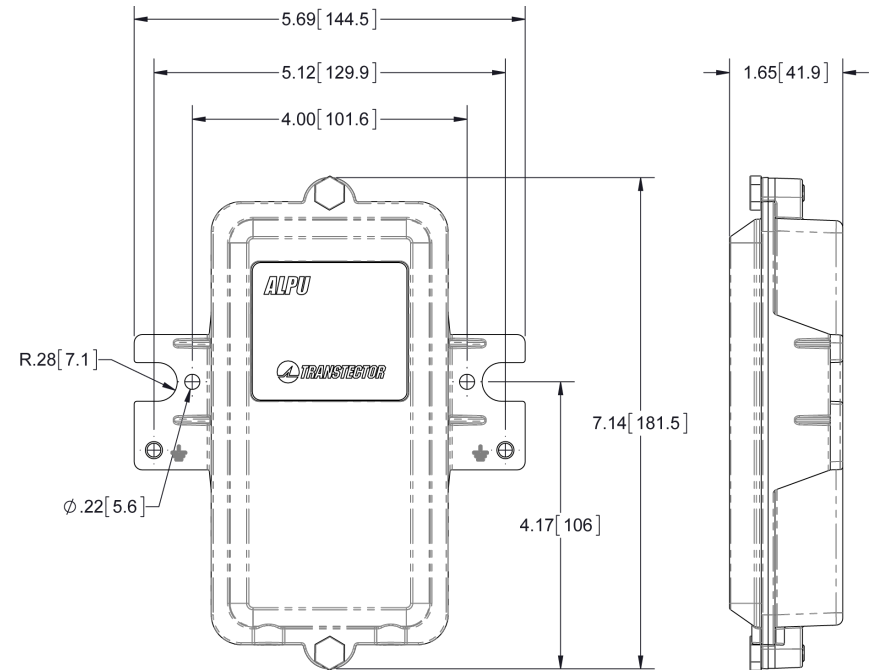
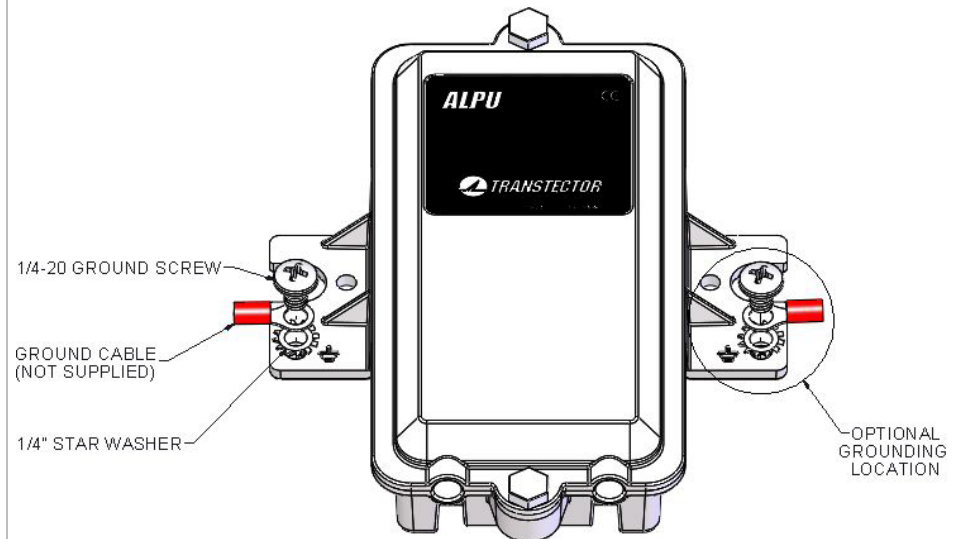

Figure 1. Mechanical outline drawing (inches)
Figure 2. Ground Cable Installation
- The ALPU SERIES is intended to be installed indoors or outdoors, on wall or pole mount applications. The unit features mounting feet on the sides that mount on 4" center-to-center holes with #10 sized hardware. The mount foot also adapts to 4" diameter pole mounting kits with a 4.5" center-to-center holes and larger hardware. Refer to Figure 1 for mechanical requirements and connector locations. The optimum ground connection on the metal enclosure unit at the mounting flange on either side is shown in Figure 2. Use minimum 8AWG wire for a ground reference attachment. Communication cables with the RJ45 connectors already installed can feed directly into the enclosure. Be sure to install the cables with the unprotected cable installed into the left "in" jack and the protected equipment cable in the right "out" jack. The enclosure features a built in cable retention that grips the cable with a screw down bracket.
- Mount the unit to an outside surface using the two mounting holes shown in Figure 1.
- Attach appropriate wire gauge 8AWG as short as possible (less than 3 feet) between the unit and the site grounding point using 1/4" hardware provided in the location shown in Figure 2. Torque to 40-45 in-lbf. Refer to local codes and equipment manufacturers standards before installation